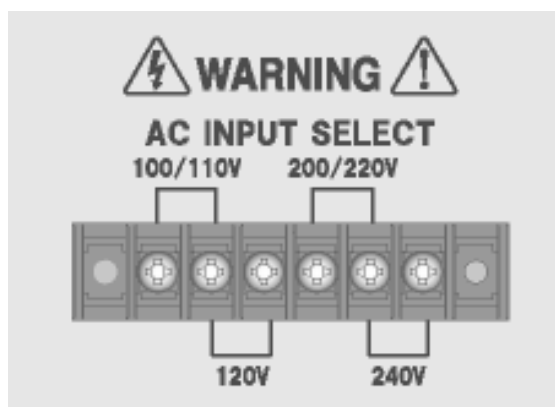

Figure 9 AC Source Selection Terminals
- ⑩ AC Input Voltage Selection Terminals
Let you select AC Input Voltage. The Unit is capable of running at 6 different voltages 100V, 110V, 120V, 200V, 220V, and 240V. AC Input ⑨ Voltage can be chosen by short-circuiting a pair of the terminals shown on Figure 9.